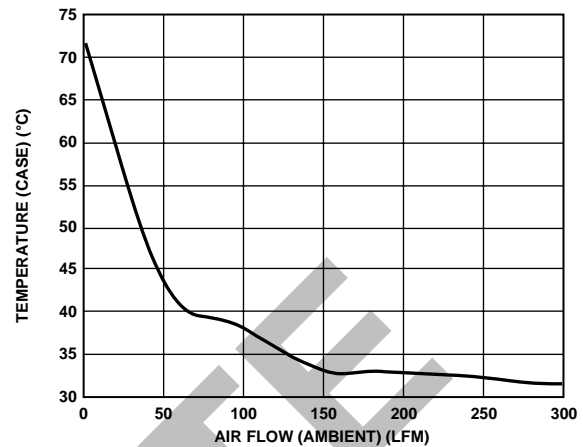

Figure 21. Temperature (Case) vs. Air Flow (Ambient)
- The unit rises to $\sim 72^\circ\text{C}$ (T_C) on the heat sink in still air (0 linear feet per minute (LFM)). The minimum recommended air flow is 100 linear feet per minute (LFM) in either direction across the heat sink (see Figure 21).